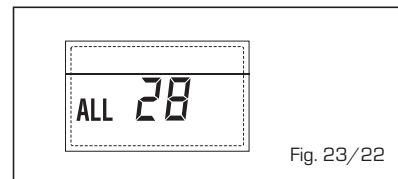

Fig. 23/22
**- DELIVERY PROBE BREAKDOWN ANOMALY FIRST MIXED ZONE "ALL 21" (fig. 23/r)**